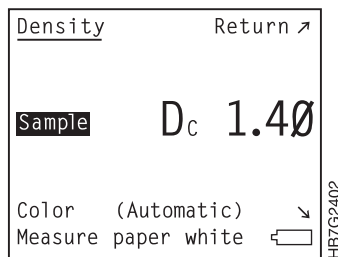

Figure 200. Gretag Density Display
3. Turn on the display by pressing the measurement key. The display should look like the one in Figure 200.